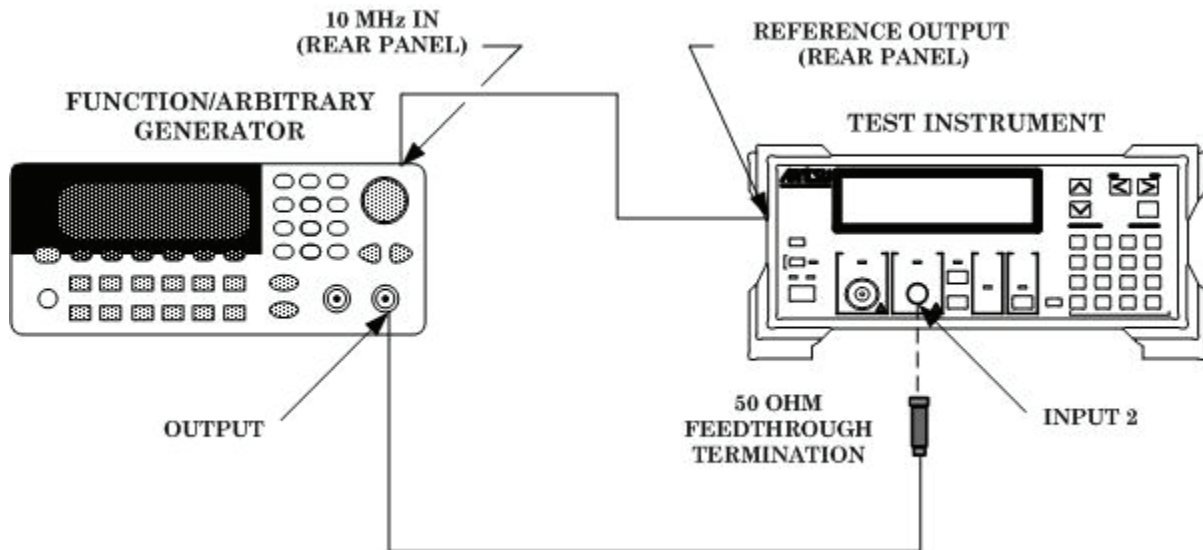

Figure 1. Input 2 sensitivity (1M Ω).
(1) Connect equipment as shown in figure 1.